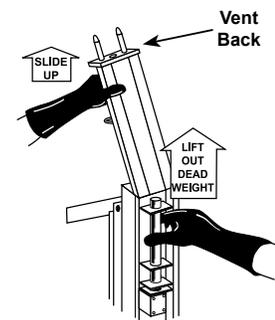

FIGURE 23 (PF Models)
- 16a. For PF Models: **Clean Vent Components** Remove deadweight and wipe out vent block (Figure 23). Clean deadweight at sink, towel dry and place back in vent assembly.